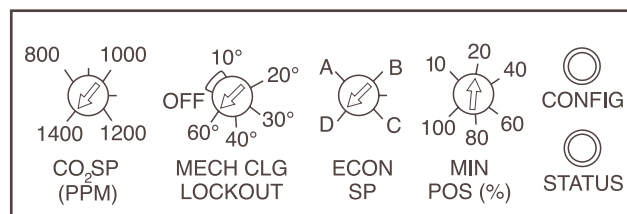

Fig. 38 — EconoMi\$er Control Adjustment Potentiometers (Factory Settings)
2. Locate the CO₂ SP (PPM) potentiometer and adjust to the desired set point. See Fig. 38.
Mechanical Cooling Lockout — Determine the outdoor-air temperature at which you want the mechanical cooling (compressors) to be disabled. Locate the mechanical cooling lockout (MECH CLG LOCKOUT) potentiometer. To disable this feature, turn the potentiometer counterclockwise (CCW) to the OFF position. Otherwise, set the value between 10 and 60 F. Mechanical cooling will not operate when the outdoor air temperature is below this value. See Fig. 38.
Dry Bulb Changeover Set Up — Determine the dry bulb changeover set point from Table 3. The settings are A, B, C and D. Locate the ECON SP potentiometer and set the dry bulb changeover set point. See Fig. 38. When the OAT is above this set point, the damper is limited to minimum position setting.
2. Locate the minimum position (MIN POS) potentiometer. Turn the potentiometer full CCW to fully close the outdoor air dampers. Turn the potentiometer gradually clockwise (CW) to the desired position. See Fig. 38.